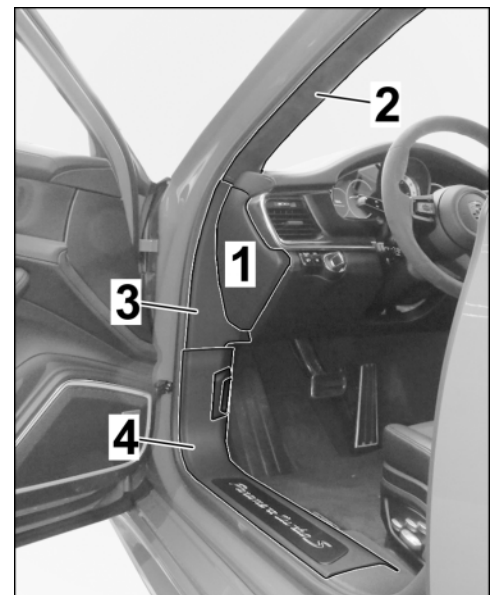

Figure 4
1.4 Expose A-pillar area (at the left  $\Rightarrow$  *Figure 4*)